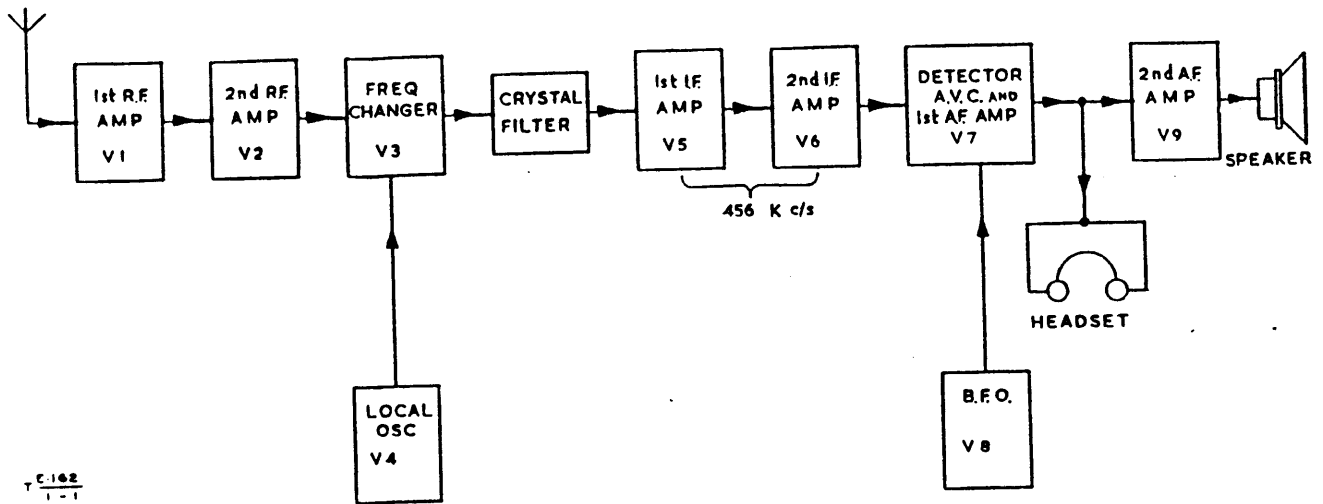

Fig 1 - Block diagram
1. Fig 1 shows a block diagram of the receiver. The frequency range is covered in nine bands by separate plug-in coil units. When the crystal filter is not in use the I.F. bandwidth is 3.0kc/s at -6db. With the crystal in circuit the maximum selectivity is 200c/s at -6db.